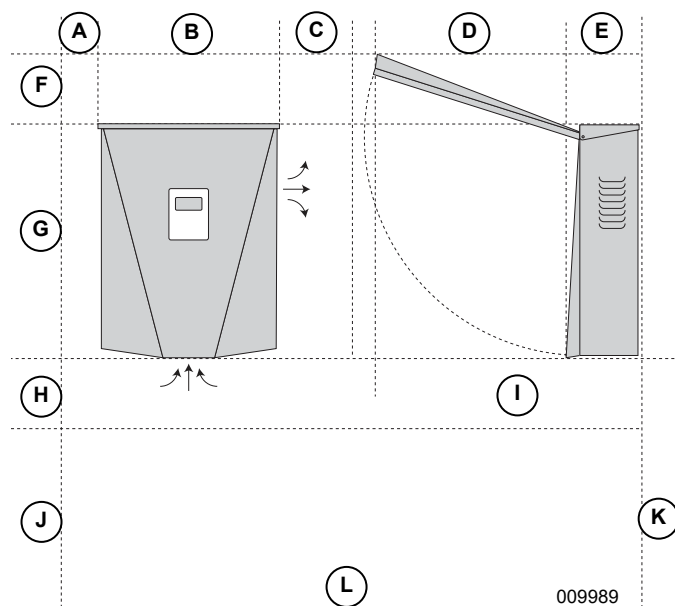

Figure 4-1. Mounting Clearances
- See **Figure 4-1**. Observe all mounting clearances.